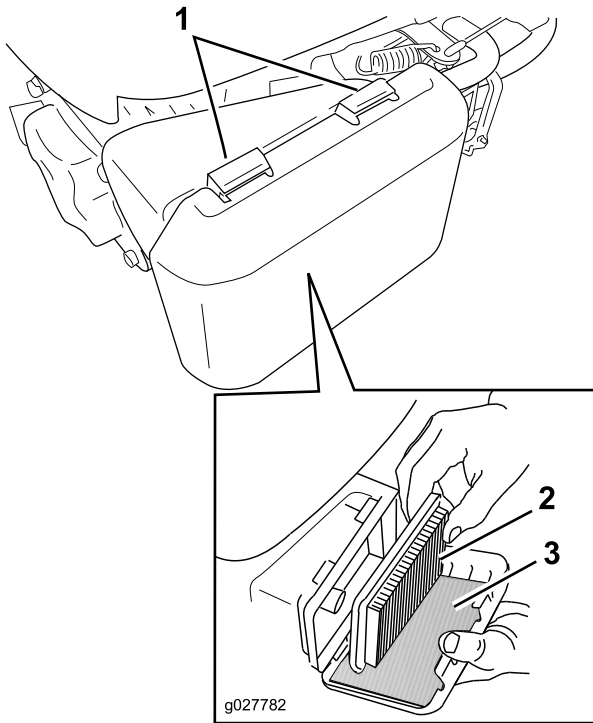

Figure 28
1. Press down on the latch tabs on top of the air-cleaner cover (Figure 28).
3. Remove the paper air filter and the foam pre-filter (Figure 28).